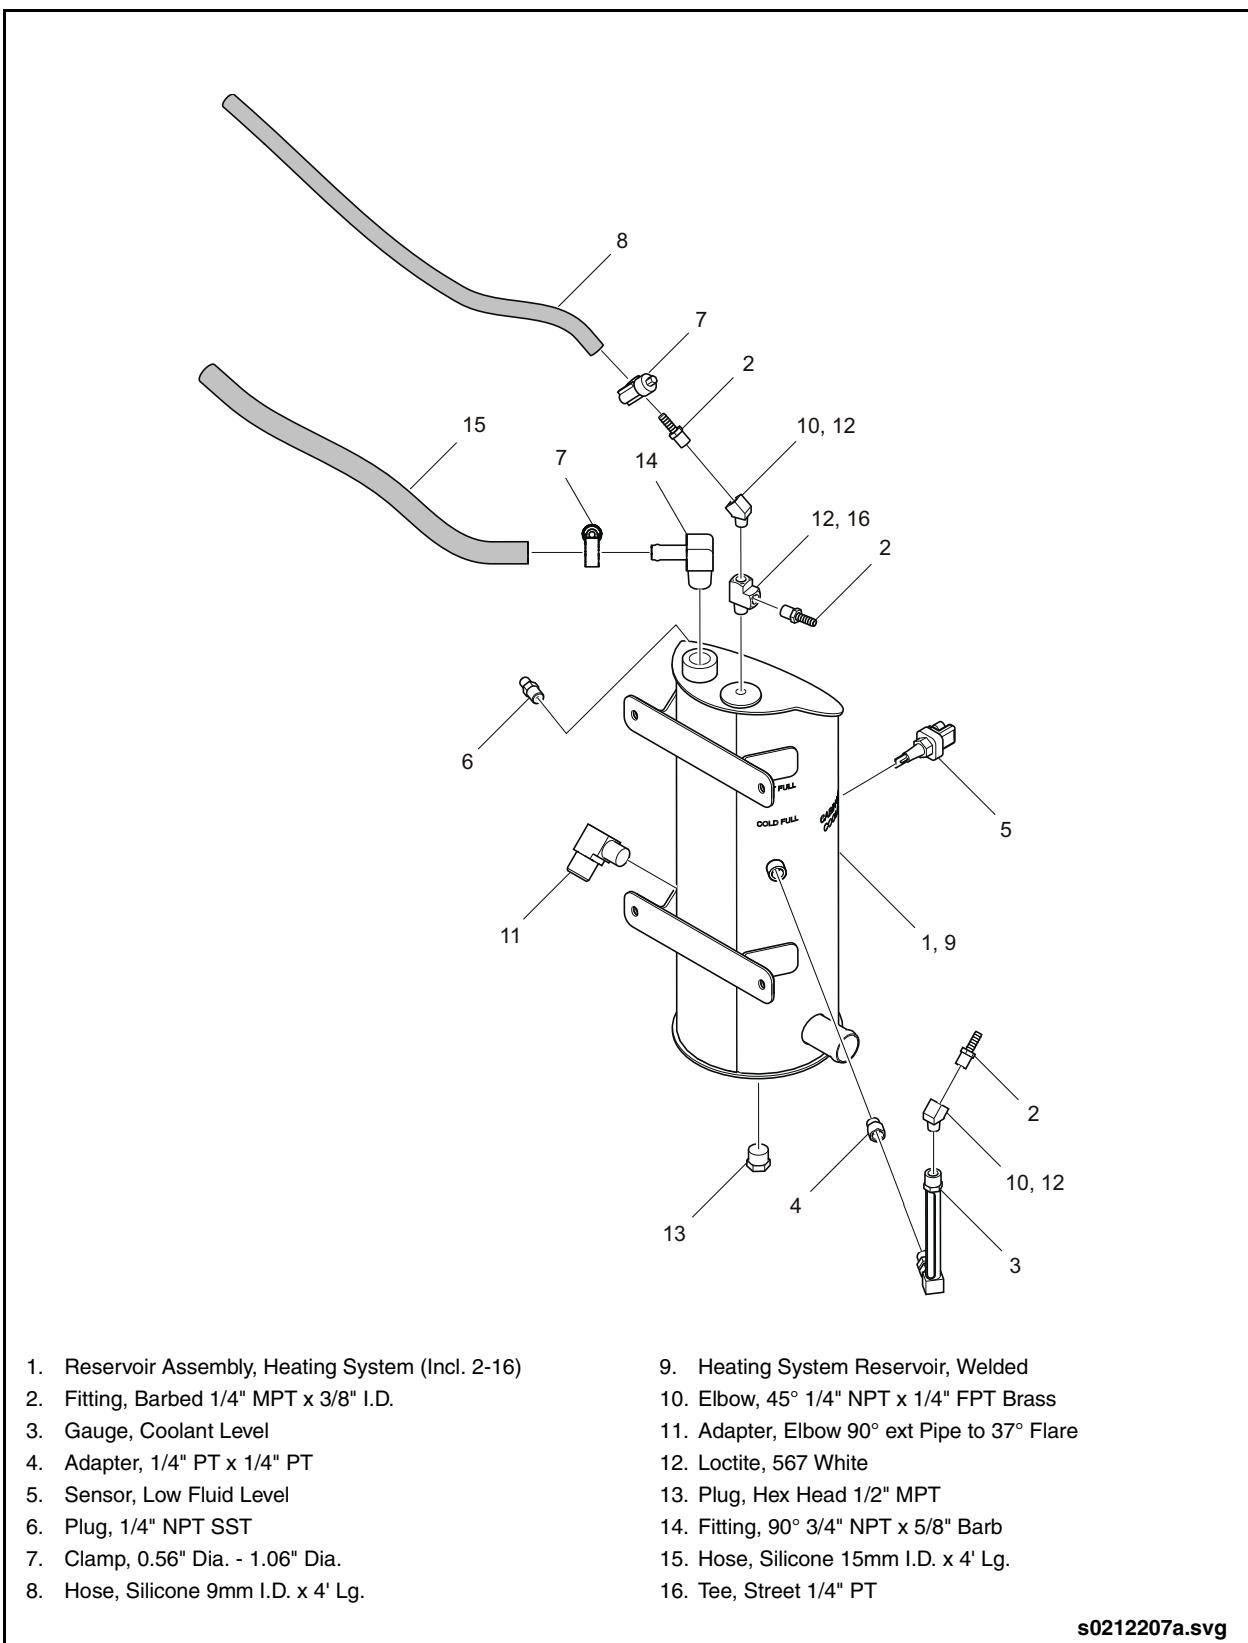

Fig. 10-23: Heating System Reservoir Assembly
1. Remove coolant sensor, fittings, and fluid gauge as required. See “Fig. 10-23: Heating System Reservoir Assembly” on page 57.